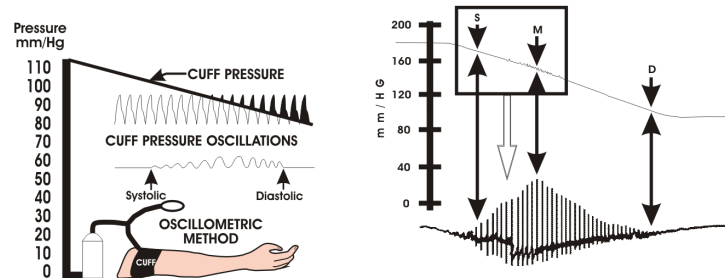

Figure 4-5. Oscillometric Measurement Method
- a. As the occlusive cuff is inflated to a suprasystolic pressure the artery is occluded so that no blood passes through. At this point, even though no blood flows under the cuff, there are small pulsations induced into the cuff pressure by the partially-occluded proximal portion of the artery lying under the cuff (See Figure 4-5).